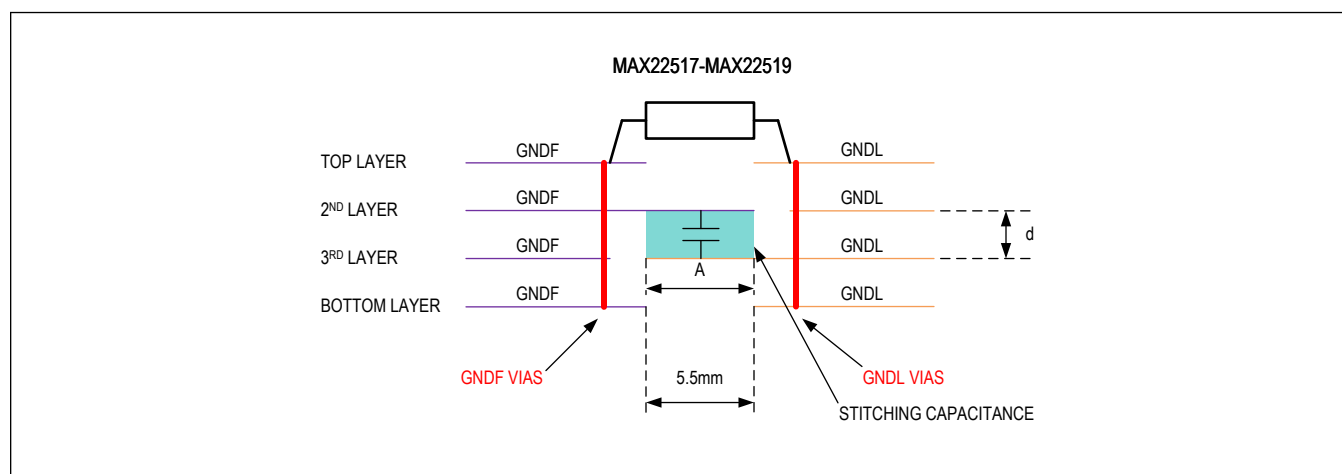
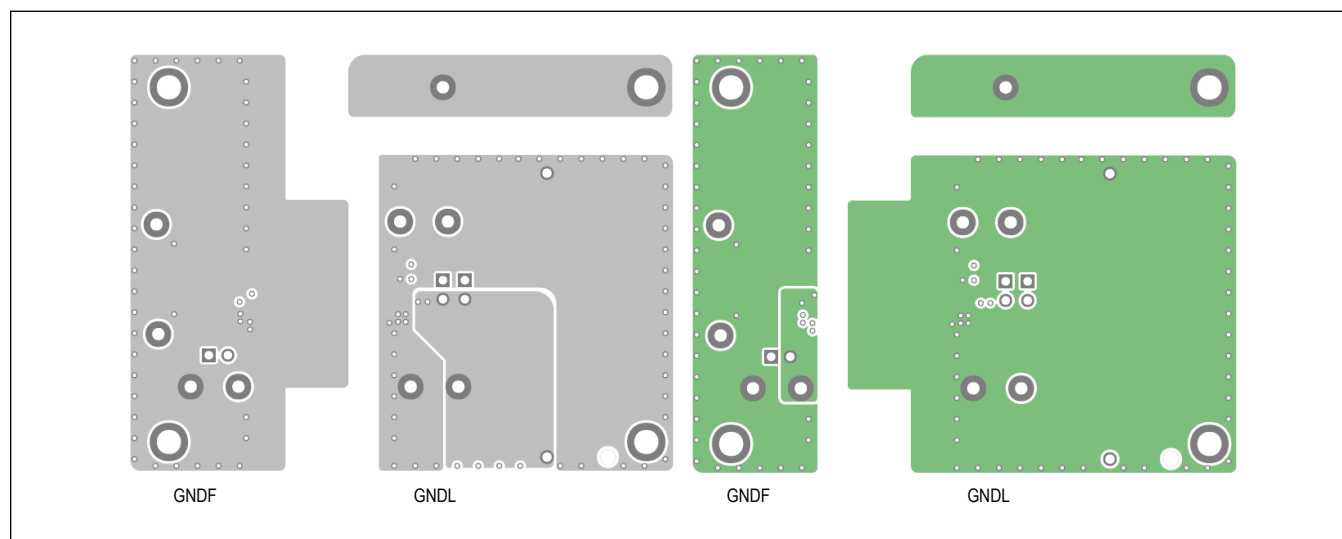

Figure 9. Stitching Capacitance Example on a 4-Layer PCB
Figure 10. Stitching Capacitance on Internal Layers
- Extend the GNDF and GNDL planes on two adjacent layers so they overlap each other, thus creating a stitching capacitance between GNDL and GNDF. See Figure 9 and Figure 10.